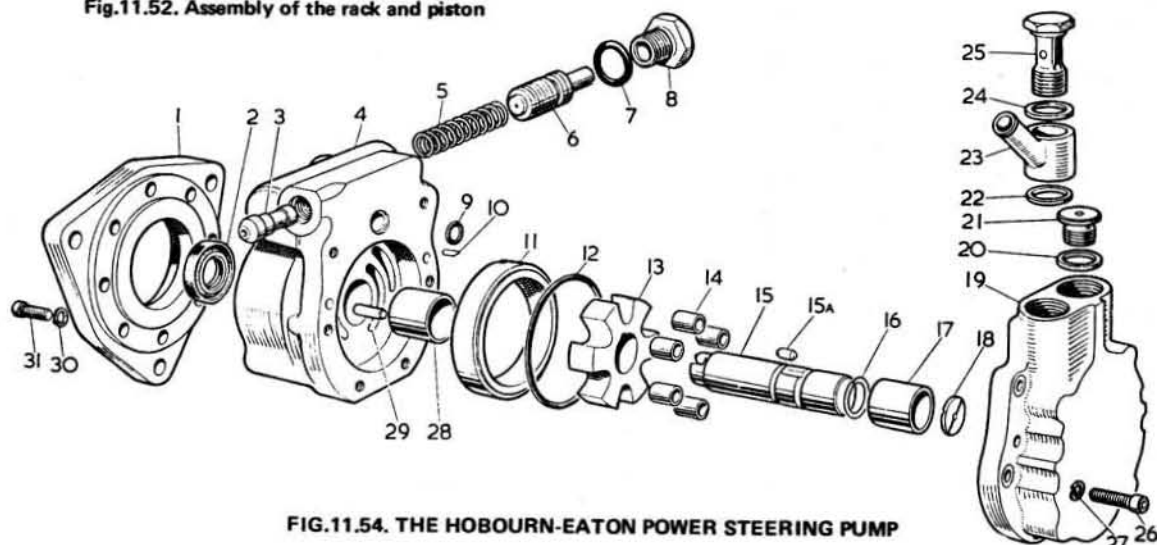

FIG.11.54. THE HOBOURN-EATON POWER STEERING PUMP
- 2 Refer to Fig.11.54.
- 3 Remove the adaptor screw (25) followed by the fibre washer (24) the adaptor (23) and the gasket (22).
- 4 Remove the six screws securing the cover (19) to the pump body (4).
- 7 Remove the thrust washer (18) from the bearing hole in the cover.
- 8 Take the snap ring (16) off the drive shaft (15) and withdraw the six rollers (14) and the roller carrier (13).
- 10 Remove the cam (11) from the cam locking peg (10).
- 11 Drift out the oil seal (2) but take care not to damage the drive shaft bush.
- 12 Unscrew the valve cap (8) and take out the valve seal (7), flow control valve (6) and the flow control valve spring (5).